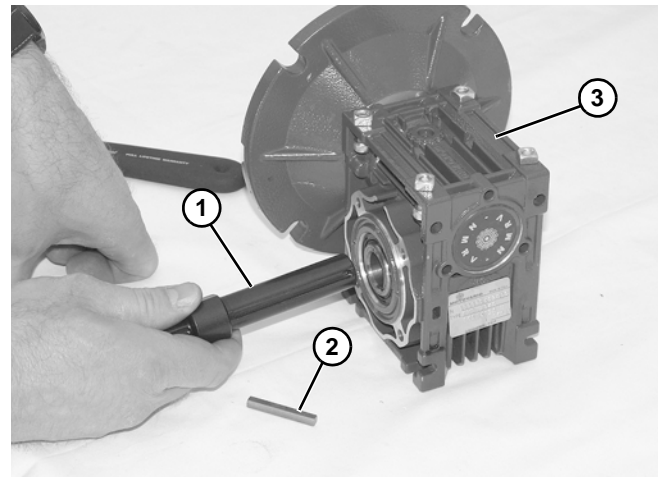

Figure 29
2. Remove driveshaft (**Figure 29, item 1**) and key (**Figure 29, item 2**).
3. Replace gear reducer (**Figure 29, item 3**).
5. Replace the original shaft components into new gear reducer (Figure 29).